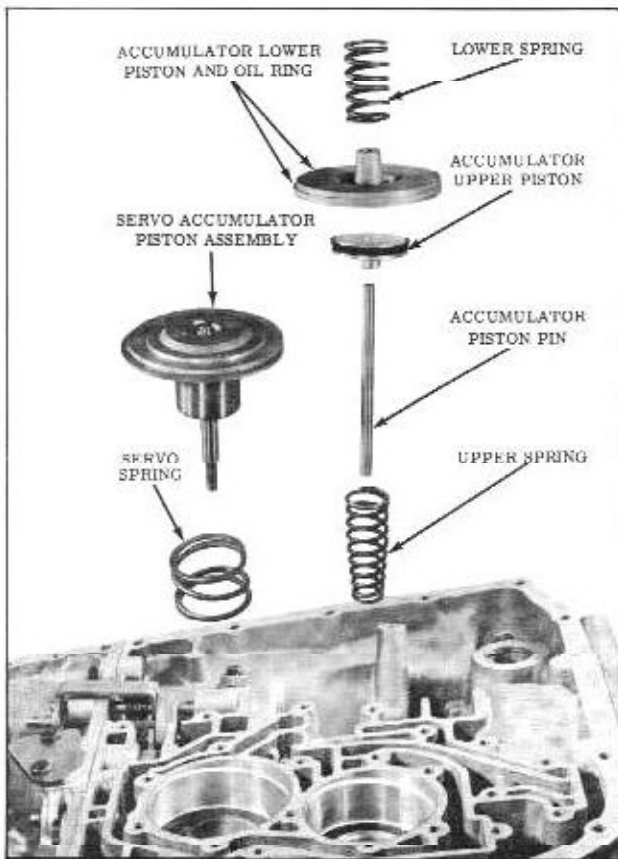

Fig. 3-117 Installing Accumulator
53. Install the upper accumulator spring, pin, upper piston, lower piston, and spring into case (Fig. 3-117)